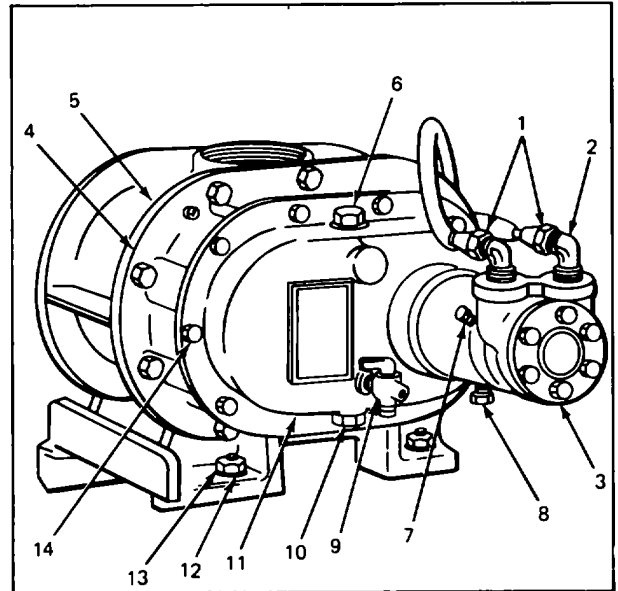

Fig. 89. Burner Blower and Fuel Pump
- a. Remove the two tube nuts (1, Fig. 89) from the elbows (2) and remove the drain plug (8).
- b. Remove the drain plug (10) from the gear housing (11) and drain the oil.
- c. Remove the ten cap screws (14) securing the gear housing (11) to the blower (5). Remove the gear housing and the gasket (4) from the blower.
- d. Remove the two setscrews (7) that secure the pump assembly to the gear housing.
- a. Insert the fuel pump (3, fig. 89) into the gear housing (11) and secure with the two setscrews (7), Install the drain plug (8).
- c. Place the gear housing (11 fig. 89) and gaskets(14) in position on the blower (5) and secure with the ten cap screws.
- d. Install the drain plug(10) in the gear housing (11) and lubricate.
- e. Install the two tube nuts (1) on the elbows(2).